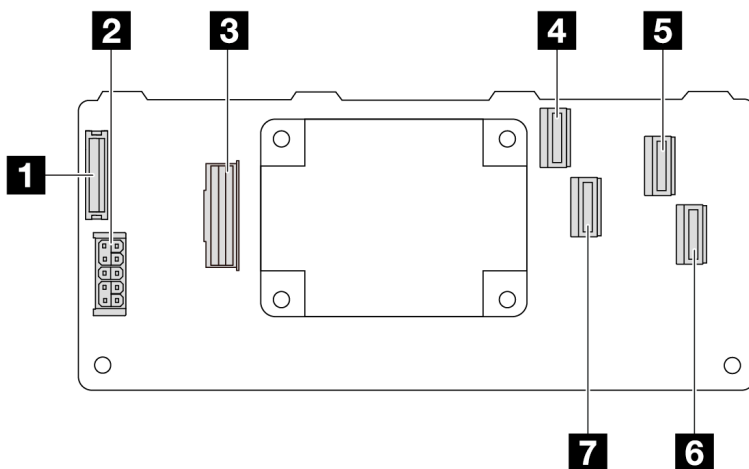

Figure 319. A Gen 3 16i CFF RAID adapter (four port connectors)
- Figure 319 “A Gen 3 16i CFF RAID adapter (four port connectors)” on page 344